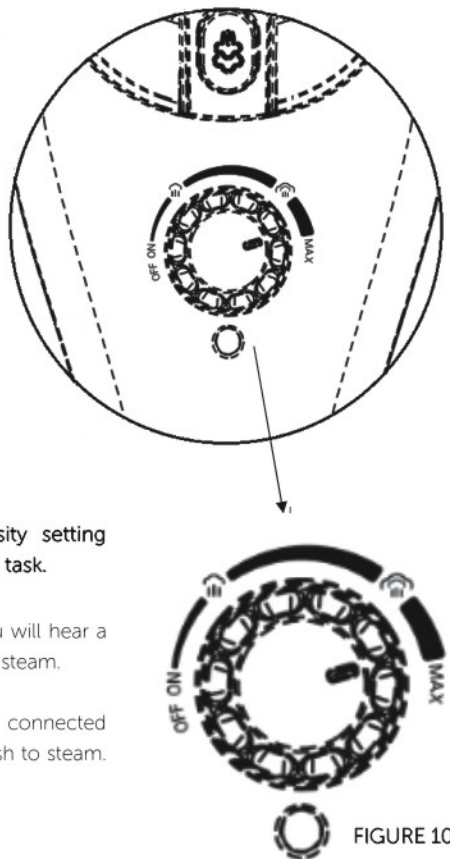

FIGURE 10
2. Turn Steam Control Dial clockwise from "OFF" position to some of the settings: LOW, or HIGH (FIGURE 10). Power Indicator Light will immediately illuminate to indicate that unit is powered on and heating.